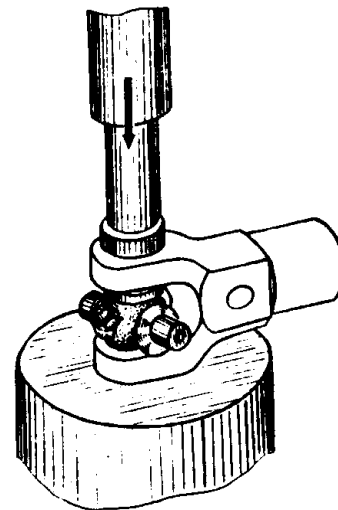

Fig. 7.5-2. Reassembly of the universal joint
2. Turn the grease nipple into the universal joint cross, inserting it into the splined fork of the universal joint with the pins with the grease nipple facing out. (Fig. 7.5-2).